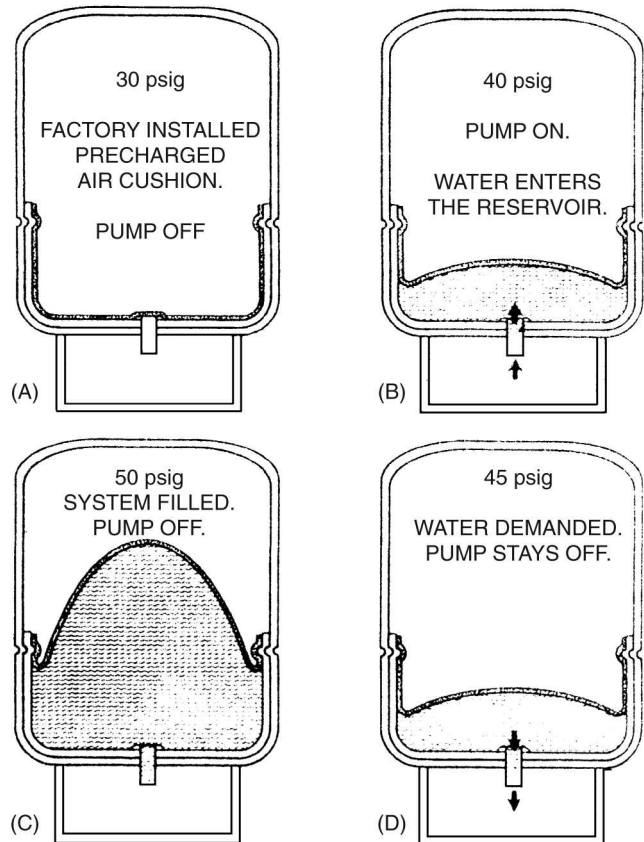
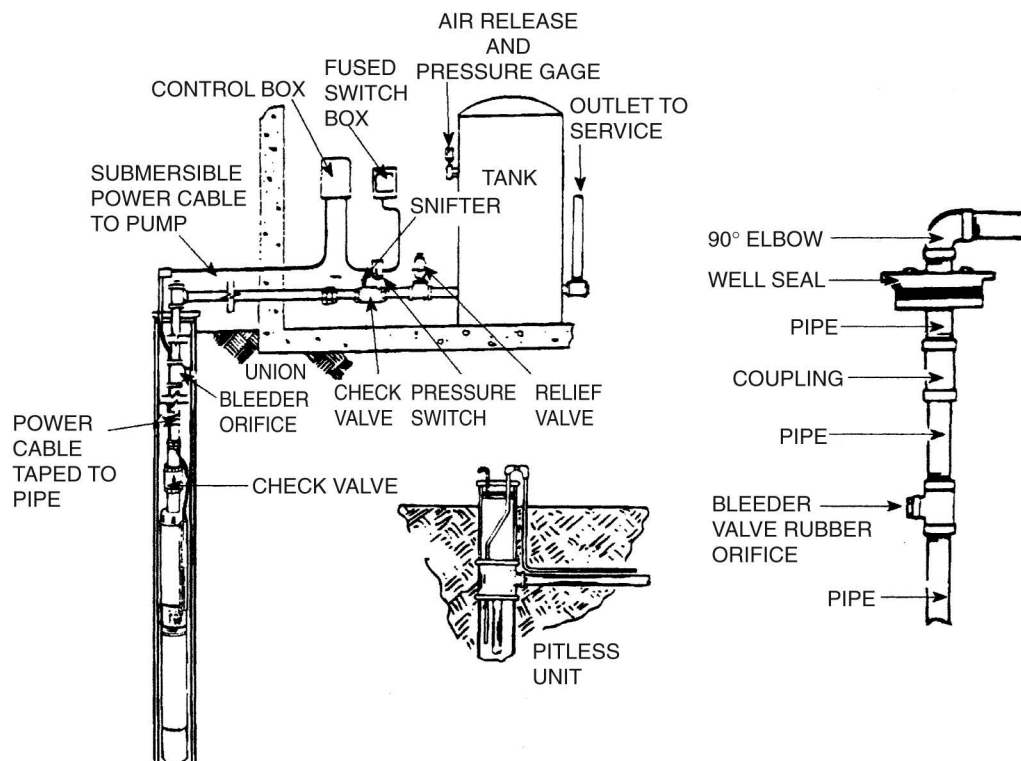

Fig. 23-3 Sequence of operation for a typical pressure tank.
Fig. 23-4 Typical installation with standard pneumatic tank.
pressure switch to turn the pump off. When these conditions occur, the tank is waterlogged. A waterlogged tank should be corrected as soon as possible; the frequent on/off operation of the pressure switch will result in burned contacts on the switch and possible damage to the pump motor (Fig. 23-3).
Pressure tanks that use a permanently sealed-in air charge, similar to the tank shown in Fig. 23-3, can be used instead of the older models. The permanently sealed tank has a number of advantages. Installation is much simpler. There is but one opening in the tank.
The four steps in the operation of a pressurized tank are illustrated in Fig. 23-3: The tank is precharged with air, and the pump is off (A). The pump is on, and water enters the reservoir (B). This compresses the air cushion and raises the air-cushion pressure. Figure 23-3C shows the tank in its filled position and a pressure of 50 pounds per square foot. This pressure operates a pressure-sensitive switch and turns off the pump. In Fig. 23-3D, the water is being used, and the pressure in the air cushion drops. Once it drops to the cut-in point, the pump starts. This is the beginning of a repeating cycle. Pressurized tanks are available in sizes from 2.0 gallons up to 410 gallons. If more capacity is needed, it is possible to add more tanks. Figure 23-4 shows the many configurations of the single-tank installation.
On a standard tank with air volume control, a bleeder orifice is required. Install the bleeder orifice in the discharge pipe 5 feet or more below the snifter valve. See Fig. 23-4 and Table 23-1 for well seal and/or pitless adapter installations.